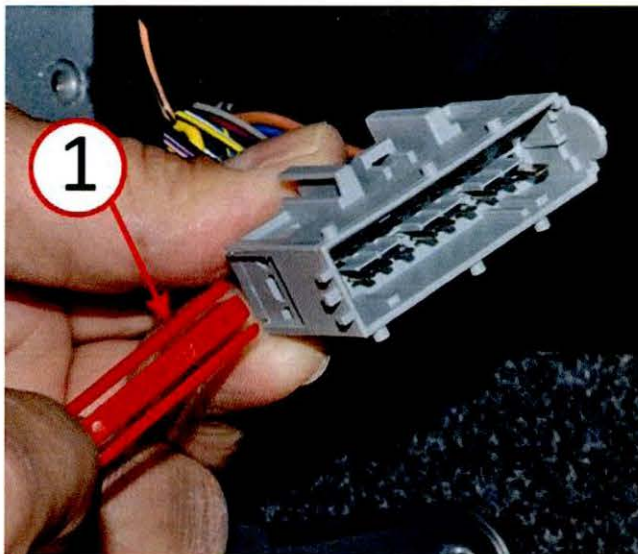

**Fig. 15 Left Heated Mirror Wire Terminal**
20. Insert the terminal of the shorter F1814 BR-BK heated mirror wire into the body side electrical connector C153 cavity 14. Push in until the terminal clicks into the connector. Gently pull back on the terminal to ensure it is securely locked in the connector (Fig. 15).